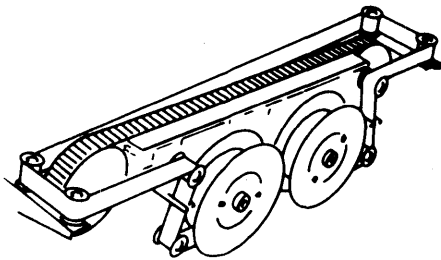

Fig. 42—Friction Feed — 80-Column
8.02 Hold empty spool (with ribbon attached) in one hand and thread the ribbon as shown in Fig. 42, 43, 44 and 45.